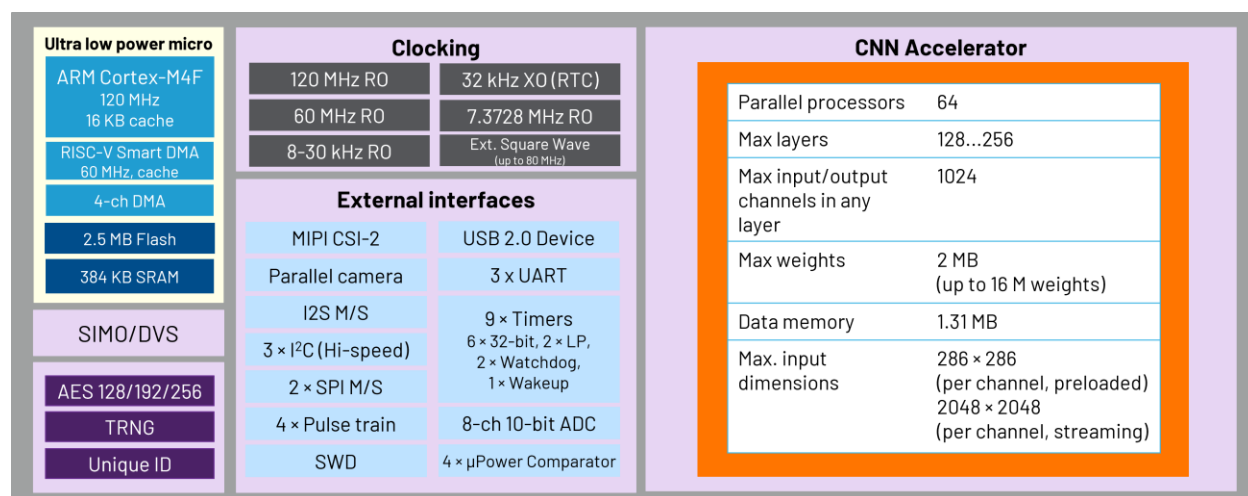

Figure 1. The architecture of the MAX78002.
The MAX78002 is a follow-on product to the MAX78000 with additional computing power and memory in the new generation of artificial intelligence (AI) microcontrollers built to enable the execution of neural networks at ultra-low power and live at the edge of the internet-of-things (IoT). This product combines the most energy-efficient AI processing with Analog Device's proven ultra-low power microcontrollers. The hardware-based convolutional neural networks (CNN) accelerator enables battery-powered applications to execute AI inferences while spending only microjoules of energy. The MAX78002 features an Arm® Cortex®-M4 with floating-point unit (FPU) microcontroller for efficient system control and an ultra-low power deep neural network accelerator. A RISC-V core is also integrated and can execute application and control codes as well as drive the CNN accelerator. **Figure 1.** The architecture of the MAX78002 shows the top-level architecture of the MAX78002.